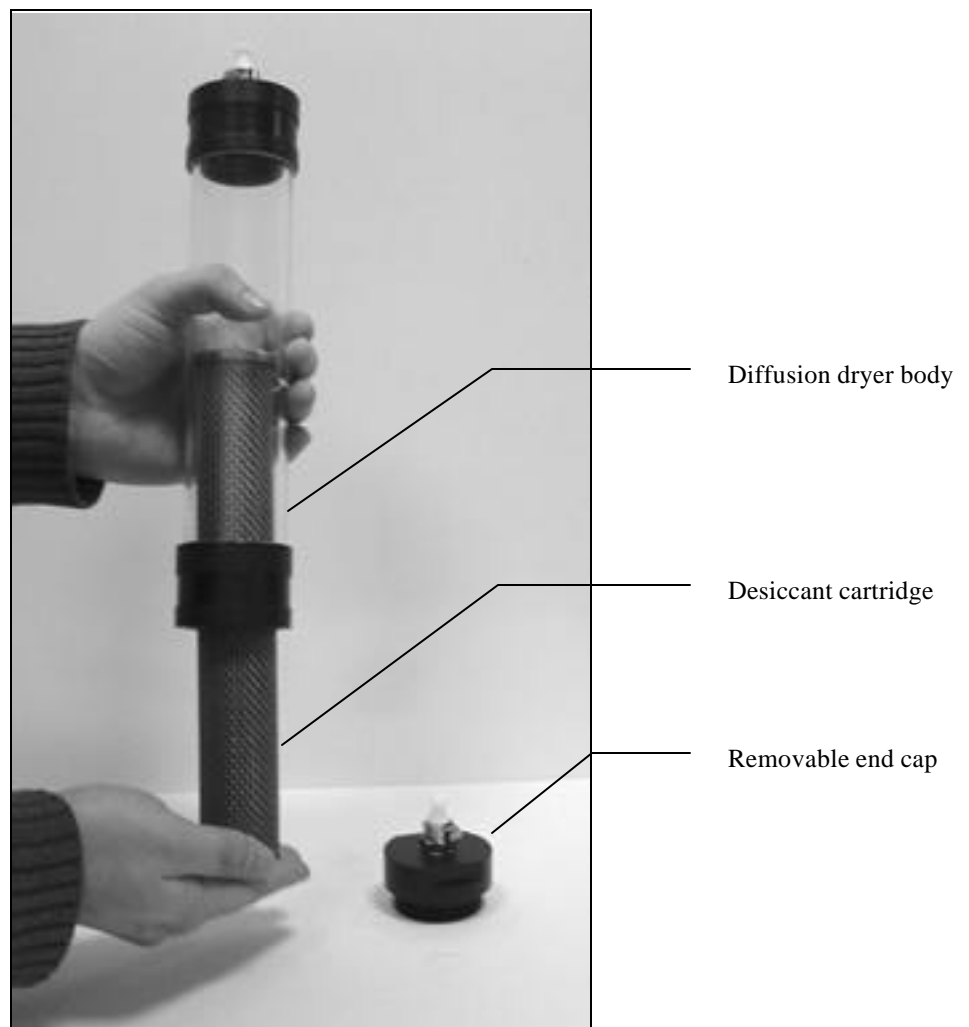

Figure 3
3. Cover the open end with your hand and turn the dryer upside-down. Hold the desiccant cartridge as it is coming out of the dryer. (Refer to Figure 3)